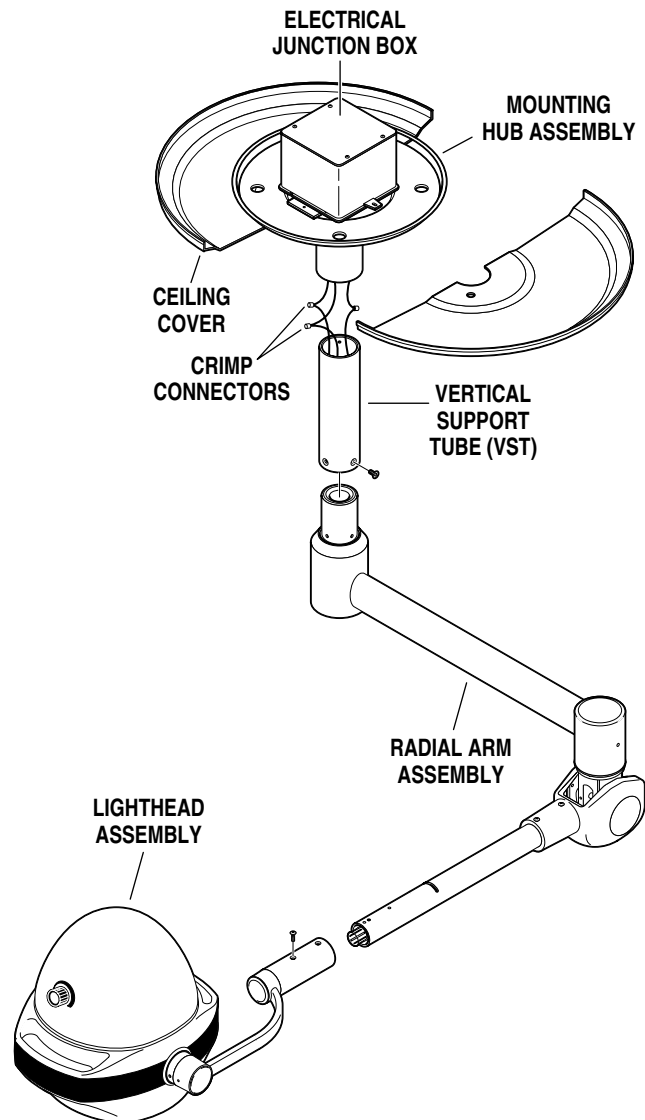

Figure 2. Model ST9 Installation Sequence
4. Install the ceiling cover. See figure 2.